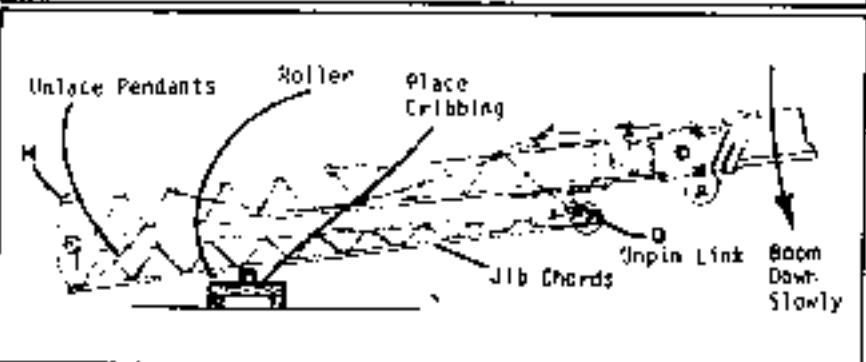

Fig. 4-21
- Step 5: Place cribbing adjacent to the roller as in Fig. 4-21.